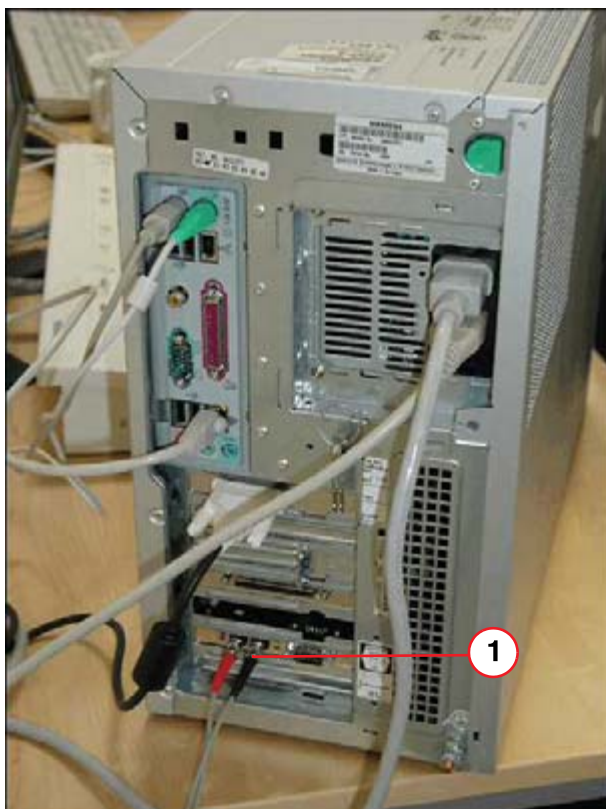

Fig. 39: AWS backside
- Pay attention to the fiber optic cables (connections between Brick and PCI card). These cables and plugs should be handled with care (1/ Fig. 39 / p. 62).